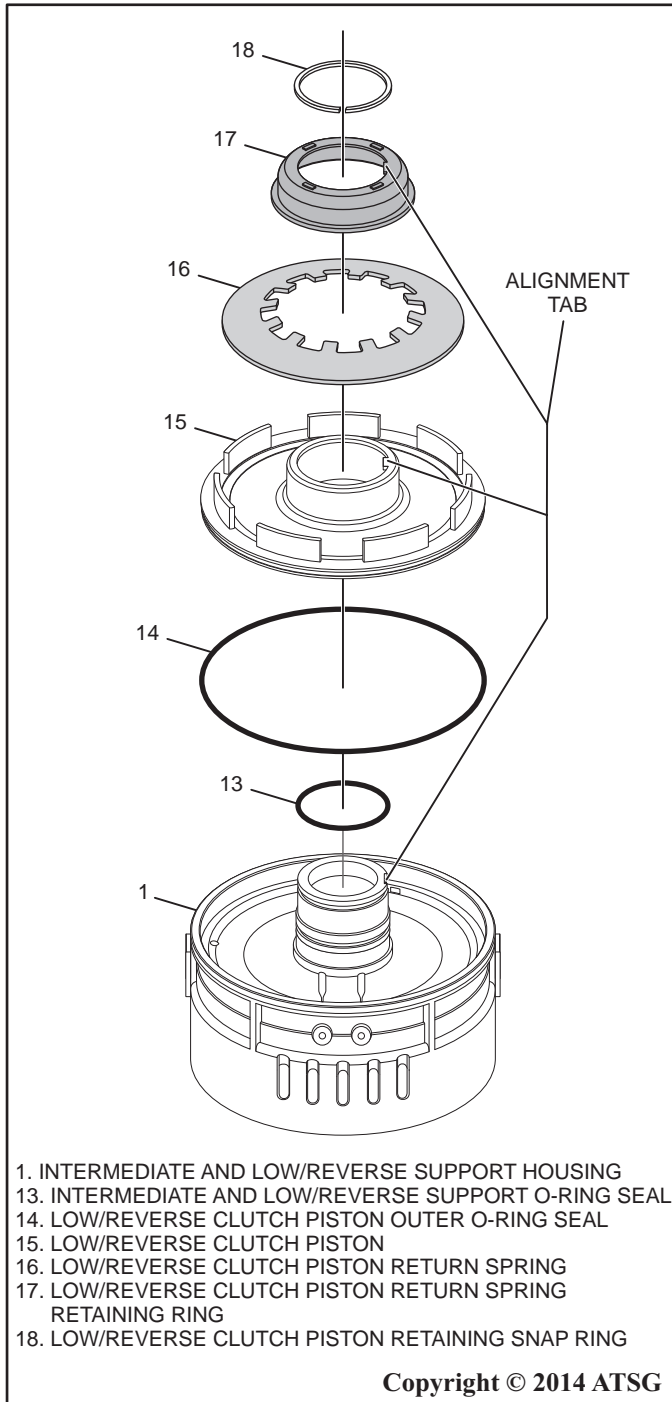

Figure 111
4. Install a new o-ring onto the intermediate and low/reverse support housing and coat the seal with a small amount of ATF or Trans-Jel® as shown in Figure 111.
5. Install a new o-ring onto the low/reverse clutch piston and coat the seal with a small amount of ATF or Trans-Jel® as shown in Figure 111.
6. Install the low/reverse piston into the intermediate and low/reverse support housing as shown in Figure 111.
7. Install the low/reverse piston return spring, and the piston return spring retaining ring as shown in Figure 111.
8. Using ST Clutch Spring Compressor 307-525 or other similar clutch spring compressing tool, compress the low/reverse clutch return spring and install the low/reverse piston retaining snap ring as shown in Figure 111.